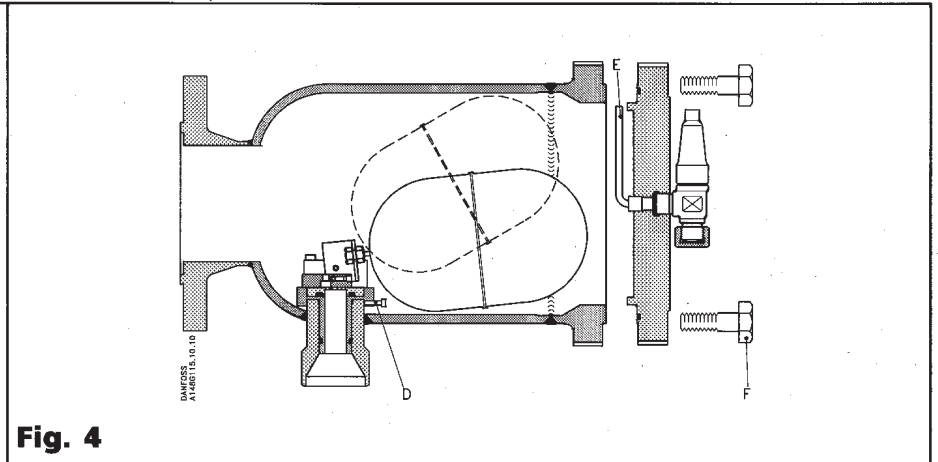

Fig. 4
- 3) Remove float valve assembly by un-tightening the screw pos. D (fig. 4) and lifting up the complete float valve assembly.
branch and tighten the screw pos. D (fig. 4).
NB! The ventilating pipe pos. E (fig. 4) has to be placed vertically up-wards.
- 6) Use a torque wrench to tighten the screws pos. F (fig. 4). Tighten with torque of 300 Nm (220 Lb feet).